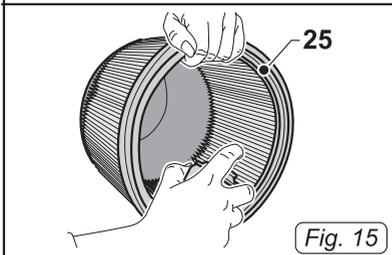

Fig. 15
- Clean the filter (25 Fig. 15) from the inside out with a blast of air. If there is too much dirt, it must be replaced.